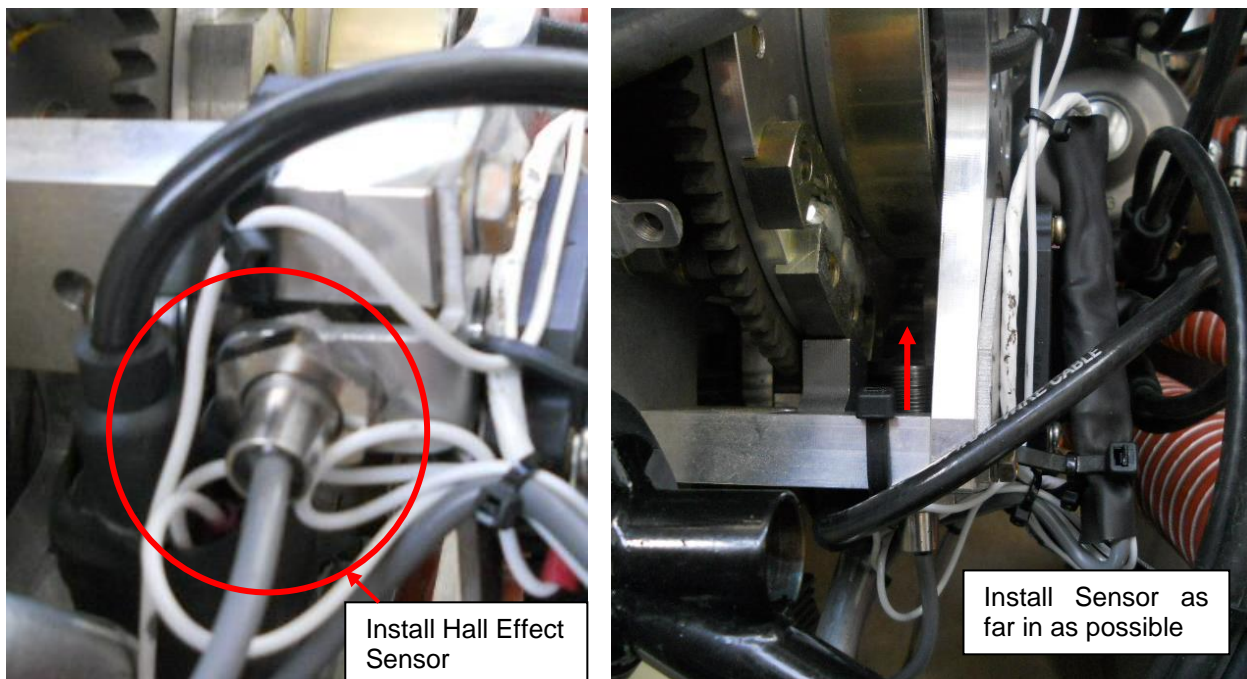

Figure 4 - Hall effect sensor installation
- d) Install the provided Hall Effect Sensor into the mounting plate on the left side of the engine (see Figure 4). This sensor should be installed as far through as possible, then tighten the retaining nut securely. Since the Sensor is installed orthogonally to the flywheel rotation axis, no adjustment can be made to bring the sensor closer to the flywheel; this also removes the possibility of the sender striking the flywheel due to small movements in the crankshaft during operation.